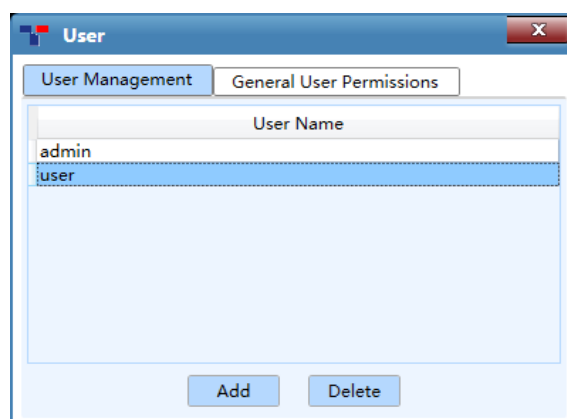

Figure D-3.6a User interface - User Management tab
2. **User:** click **User** option in the **Option** submenu and the application software will automatically pop up the user interface, as shown in figure D-3.6a.